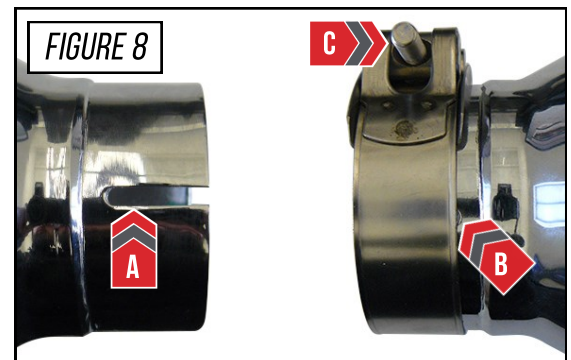

FIGURE 8
To accomplish the best tip fitment, align the 2.50" tip clamp to cover *only* the slot, as shown by **Arrow A** in **Figure 8**.
The clamp should only be covering the section of the tip that has been slotted, as shown by **Arrow B** in **Figure 8**.
- It is recommended to apply anti-seize to the threads to prevent thread binding, shown by **Arrow C** in **Figure 8**.